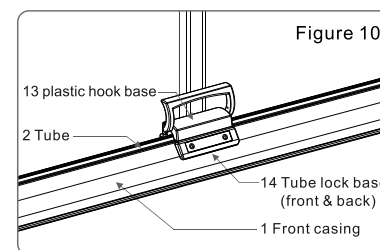

Figure 10
2. Remove the handle from the fastener at the top of uphold bar. Grasp the handle, lower the screen to allow it retract into the case. Be sure the handle base connected with tube lock base. (Figure 10)